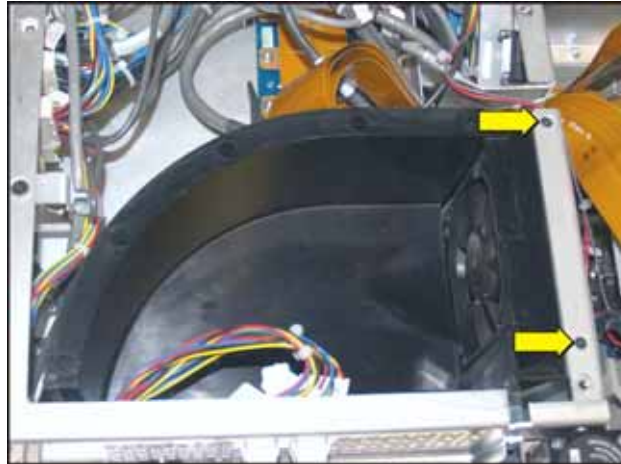

Figure 5-13 Intake Duct
3. Use a #1 Phillips™ to remove the two screws from the corners of the intake duct (**Figure 5-13**).